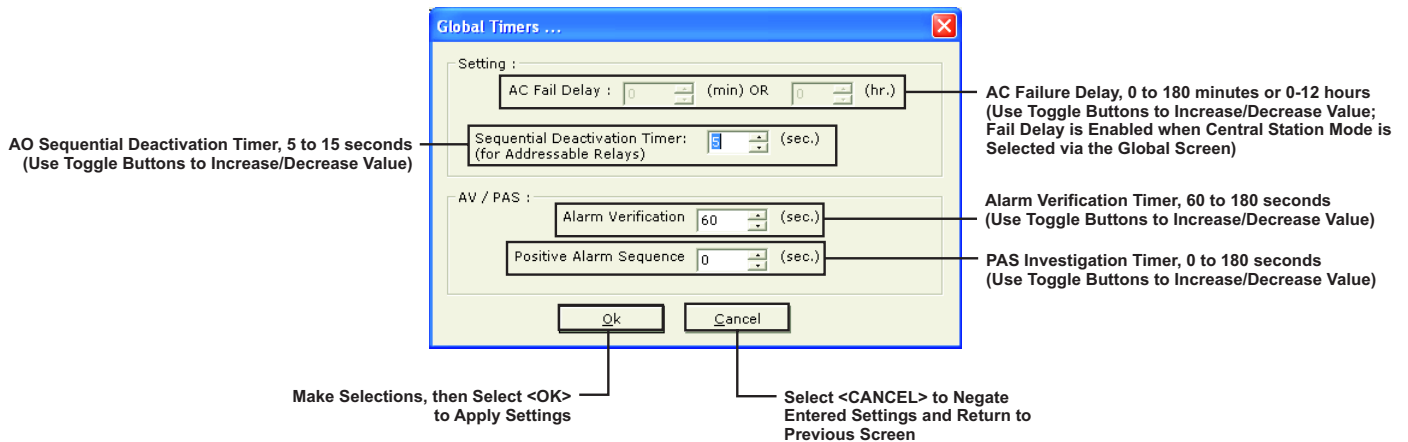

Figure 2-41. Global Timers Screen
1. Select the **<Timers>** button; Figure 2-41 displays.